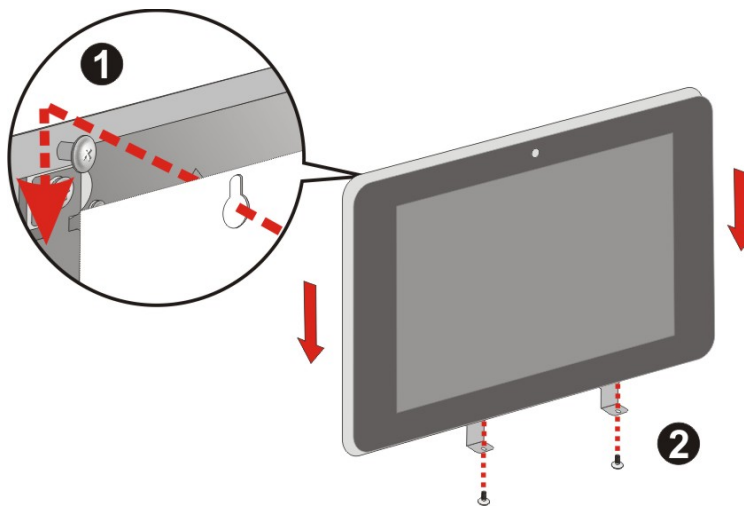

Figure 3-10: Mounting Panel PC
Step 7: Carefully attach the panel PC to the mounting screws and gently pull the panel PC downwards until the panel PC rests securely on screws. Ensure that all four of the slotted holes fit snugly into their respective mounting screws (Figure 3-10 ①).
Step 8: Secure the panel PC by installing the two screws (M3*4) came with the panel PC into the two screw holes on the bottom of the bracket. (Figure 3-10 ②).